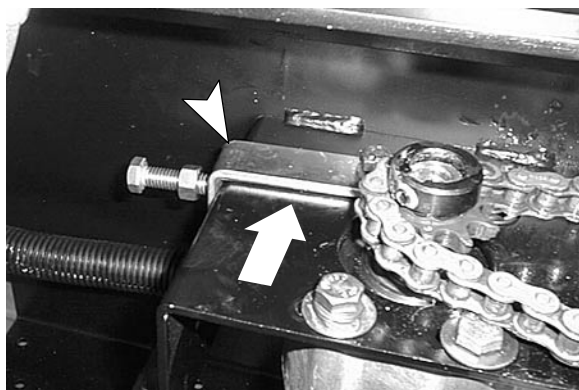

Fig. 6
5. Remove the chain tension L-bracket and remount it as shown, 9/16" wrench required (Figure 6). Re-tighten the adjustment screw and secure jam nut.